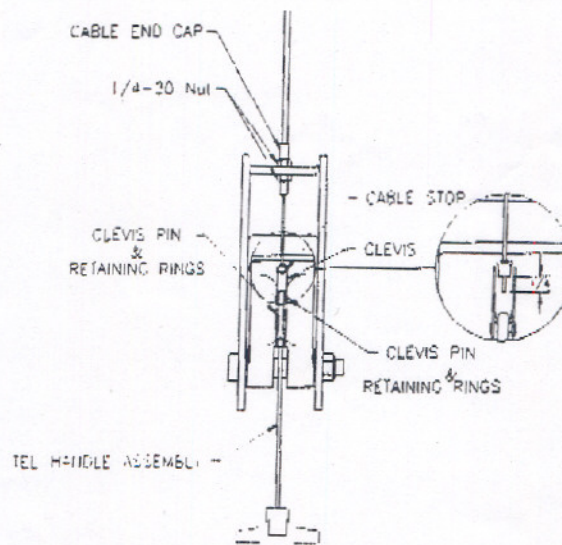

Figure 4
17. Attach the tee handle assembly to the bottom hole of the power side locking pawl using the clevis pin and retaining rings. The complete assembly of the power side should be as seen in Figure 4.
(Figure 4)